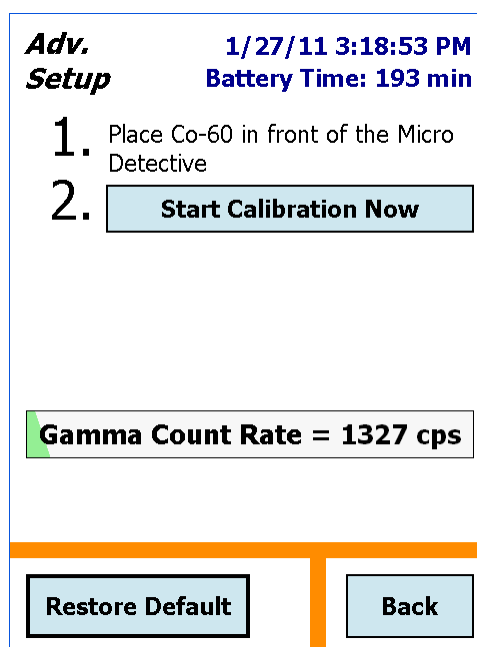

Figure 18. Tap the “Start Calibration Now” Button.
- Position the indicated source (in this case, ^{60}Co) in front of the detector window, then tap the **Start Calibration Now** (Fig. 18) button.